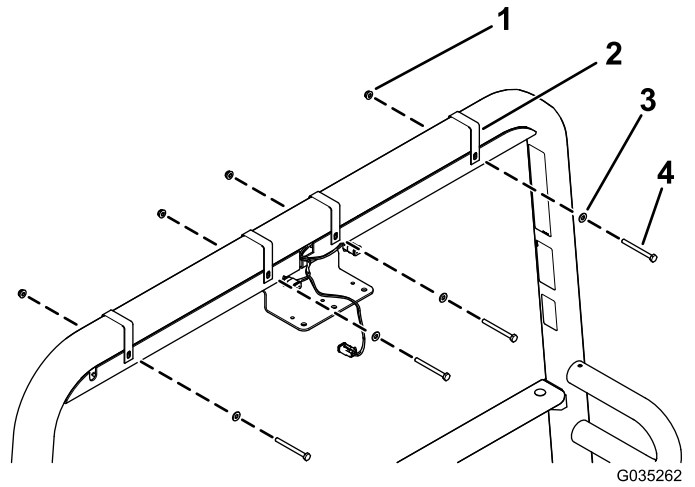

Figure 4
2. Secure the 2 light channels to the ROPS with the 4 light-channel-mount brackets, 4 hex-head bolts (1/4 x 2-3/4 inches), 4 flat washers (1/4 inch), and 4 flange nuts (1/4 inch) as shown in Figure 4.